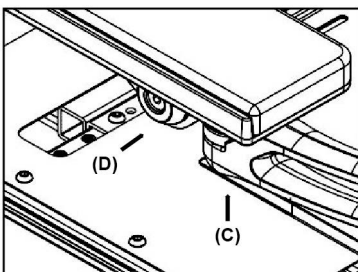

Fig B1-3
(3) Position (C), use a hex wrench to adjust the outward and inward angles of the armrest pad. (Fig B1-3)
(4) Position (D), use a hexagon wrench to adjust the upward and downward angles of the armrest pad. (Fig B1-3)